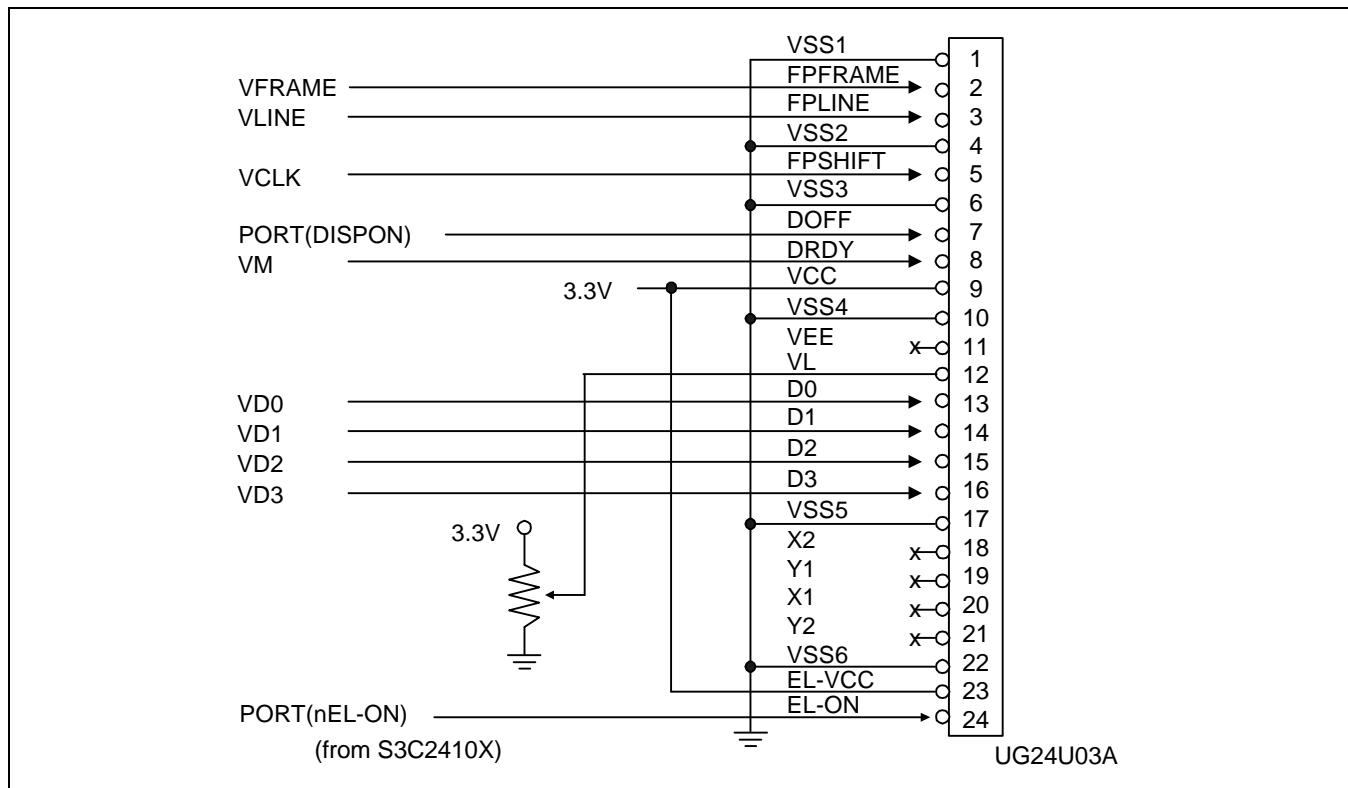

Figure 4-15. UG24U03A Connection with S3C2410X (320x240 Mono STN LCD)
- UG-24U03A (320x240 mono STN LCD) from SAMSUNG DISPLAY DEVICES CO., LTD. (refer to Figure 4-15)